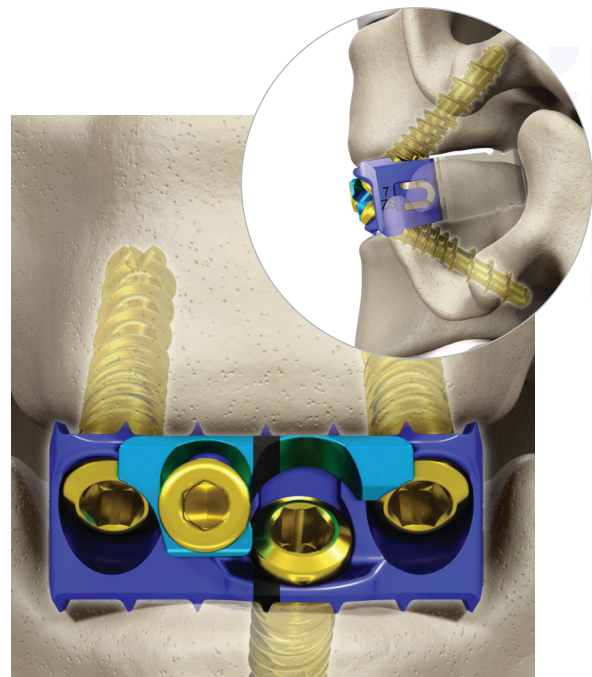

Figure 20
- Completely engage the 2.0 mm hex driver in each screw head and fully seat all bone screws (Figure 20).